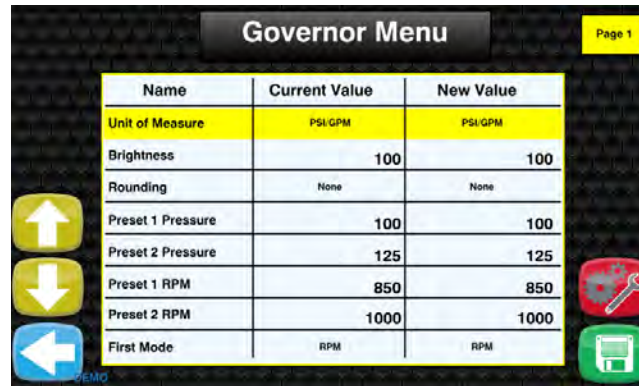

Figure 108. Governor Menu Screen (Set Units)
- H. Touch Governor Settings button. Governor Menu screen (Figure 108) is displayed.
- L. Touch check mark button (lower right side of left-hand half of screen). Governor Menu screen (Figure 108) is displayed.
- B. Touch Governor Settings button. Governor Menu screen (Figure 108) is displayed.